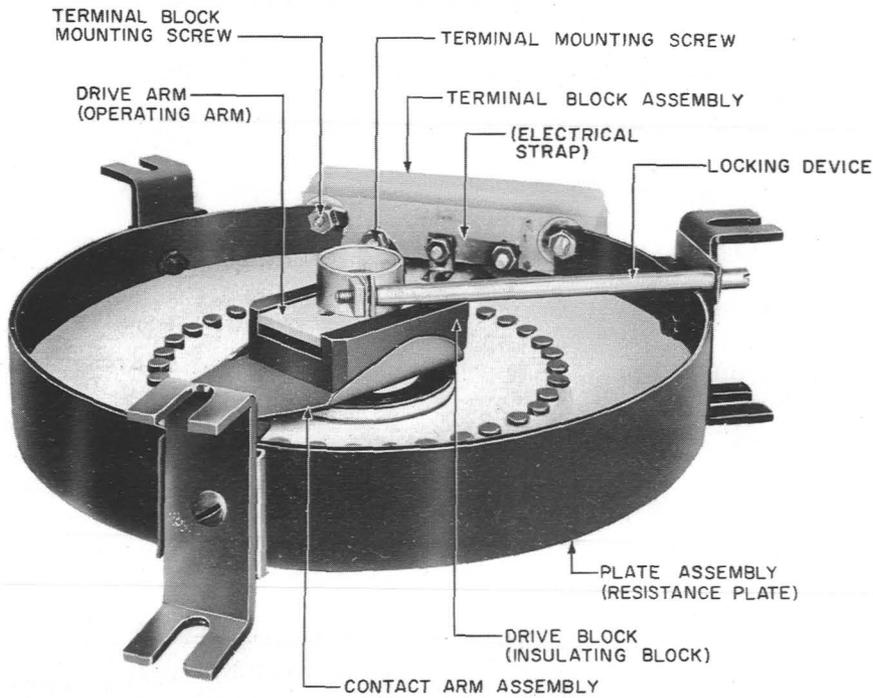

Fig. 1 - 6-, 8-, and 13-Inch Rheostat — Balanced Contact Arm Construction — KS-5661 Rheostat Illustrated
(1) Rheostats having this type of contact arm are shown in Fig. 1 and 2. In these rheostats, the contact arm is held against the contacts by a coil spring acting between the contact arm and operating arm. The operating arm is insulated from the contact arm by an insulating block. Most KS-5031, KS-5125-01, KS-5244, KS-5661, KS-5711, and KS-5712 rheostats are of balanced contact arm construction.
(2) Remove the spring retaining nut using the R-1542 adjustable wrench and remove the shaft washer, coil spring, and insulating block. Substitute new parts as necessary and mount the parts in reverse order of removal.
3.06 Terminal Block Assembly: Fig. 1 and 2 —
3.07 Locking Device: Fig. 1 —
- (1) Unscrew the rod using the 3-inch C screwdriver, and remove the locking device.
- (2) Position the replacement bushing and clamp around the shaft and mount the rod on the clamp as shown in Fig. 1.
- (3) Hold the operating arm in the required position and securely tighten the clamp, using the 3-inch C screwdriver to turn the rod.